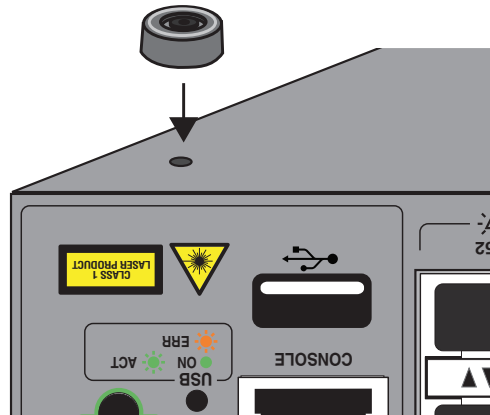

Figure 26. Placing the Bumper Foot on a Base Corner Hole
3. Place the bumper foot with rivet housing onto one of the holes in the base of the switch. Refer to Figure 26.